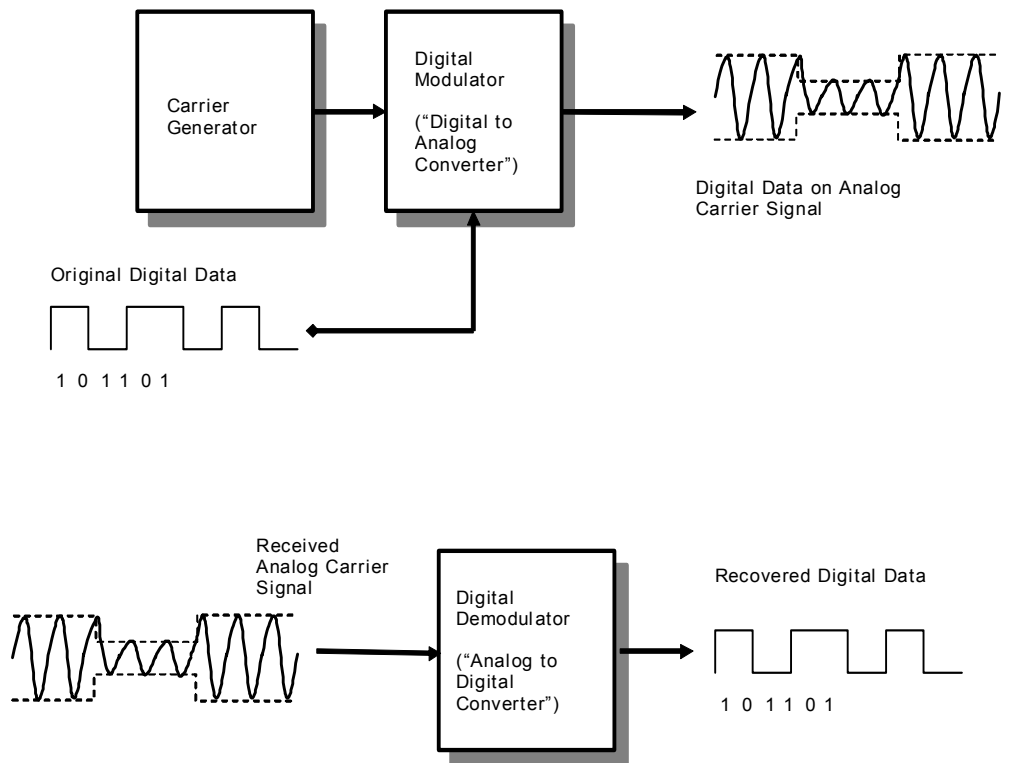

Figure 1-7: Computer Data Transmission Process
Computers are an important part of modern life. Part of the power of computers arises from their ability to communicate information rapidly over a distance. A *network* is a group of computers that are connected together and share data. Computers use digital or *binary* signals in their operation (recall that a binary signal has one of two possible states, 1 or 0). However, digital signals can't be directly sent over a long distance directly. Long-distance digital communication usually requires that the computer's digital signals be converted into analog form for transmission, as shown in Figure 1-7.
In Figure 1-7, the original computer data is transmitted in serial form (one bit at a time) to the digital modulator (which really acts as a digital-to-analog converter). Just as in voice applications, the modulator places the digital information onto a carrier signal supplied by the carrier generator circuit. The result is a digital signal that rides on top of an analog carrier wave, which can then be transmitted over a distance. The process is reversed to recover the digital data.
Figure 1-7 shows amplitude shift keying (ASK) carrying the data. ASK represents ones and zeros by varying the amplitude of the sine wave carrier signal. It is really just amplitude modulation. FM and PM are also widely used to carry digital signals.
1-24 What type of modulation is used in Figure 1-7?
15. A unit just like the one of Figure 1-7 has come in for servicing. The complaint on the repair order states "won't transmit." When connected to a dummy load and RF power meter, the set shows *no* power output when the microphone is keyed.